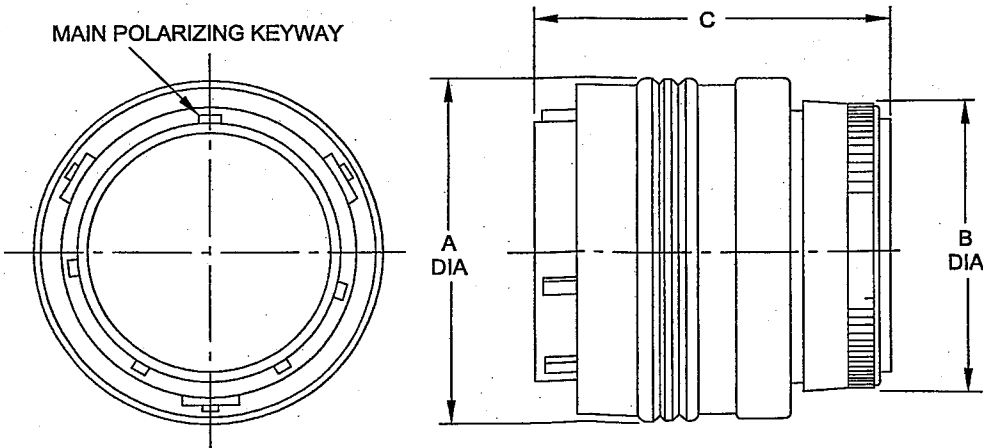

Fig 17 469 Push-pull plug, dimensions
- 13.2 Details of the 469 push-pull plug are given in Fig 17 and Table 10. Locking of the 469 plug on a receptacle is achieved by pushing the outer shell of the plug over the bayonet studs on the shell of the receptacle.